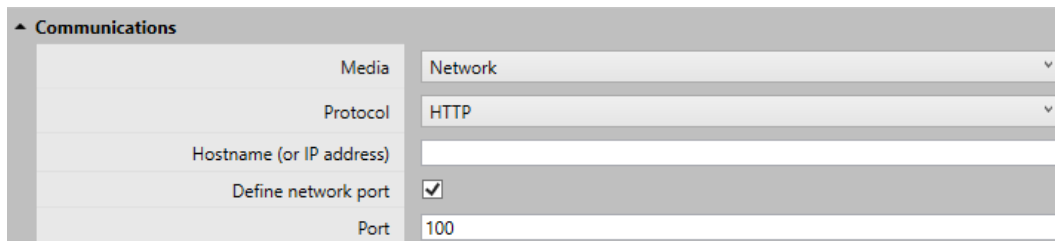

Figure 3-51: Communications > Define network port
- *Protocol:* When adding a DGA 900, MS 3000 or CB Watch 3 there is the option to use either the HTTP (default port 80) or HTTPS (default port 443) protocol. The selected protocol must match the protocol set on the device. For DGA 900-family devices, it is possible to define a non-standard port, select the checkbox **Define network port** and specify a port from 0 to 65535 as shown in Figure 3-51.